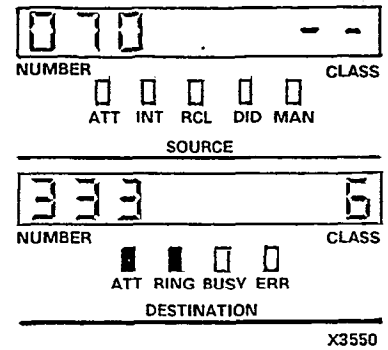

Figure 300-2
* SOURCE display (Figure 300-2) shows the equipment number of the calling trunk
EXTEND CALL TO TEST STATION (FIGURE 300-2)